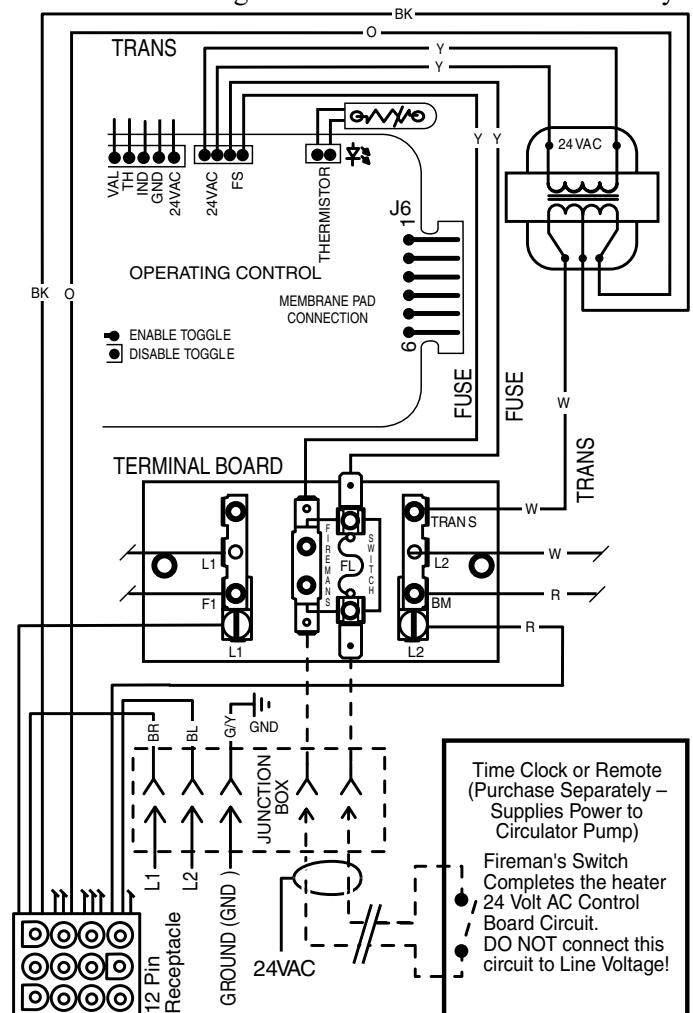

Figure 30.
- Connect wires between the Fireman's Switch terminals on the heater and the relay. Connect wires from the controller or timer to the Fireman's Switch. Controller, timer or relay should be sized to handle 24VAC at 0.5 Amp (because it will be completing the 24VAC control board circuit on the heater as shown in Figure 30). DO NOT apply line voltage to the Fireman's Switch terminals. Use 18 gauge wire with a minimum 1.2 mm (3/64 in.) thick insulation rated for a temperature rise of at least 105° C.